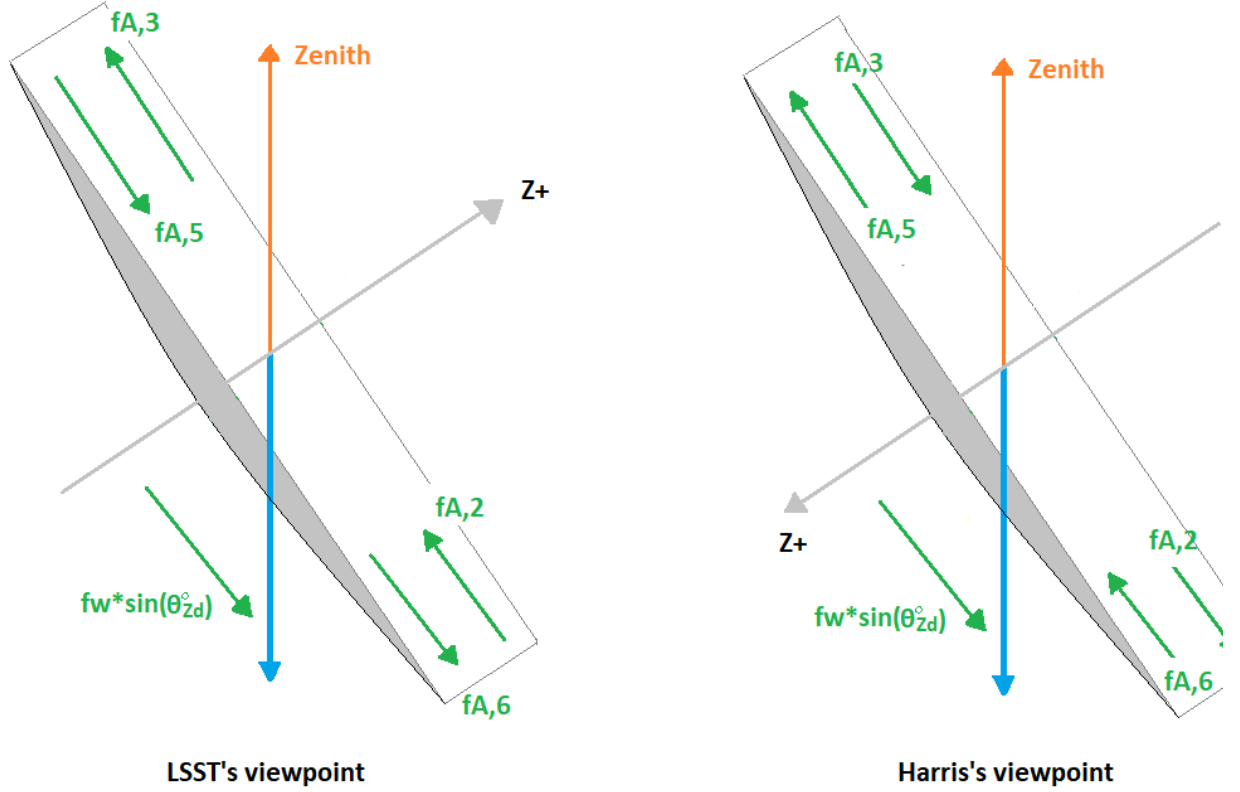

Figure 5: Different coordinate systems based on LSST's viewpoint and Harris's viewpoint.
It is noted that the coordinate system of M2 is different from the telescope's coordinate system, which the positive direction is defined from M2 to M1M3 (in Harris's viewpoint), Figure 5. Harris developer considered that tangential actuators A2 and A3 are in compression, so  $f_{A,2}$  and  $f_{A,3}$  have a negative sign, and tangential actuators A5 and A6 are in tension, so  $f_{A,5}$  and  $f_{A,6}$  have a positive sign in (1).